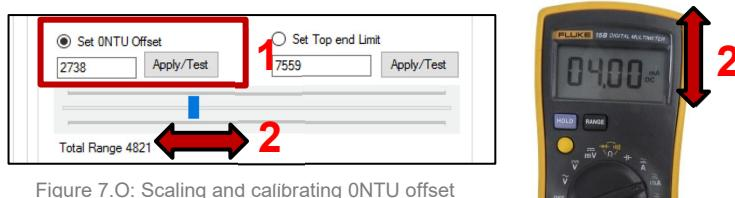

Figure 7.O: Scaling and calibrating ONTU offset
3. Select the option “Set Top-end Limit” (Figure 7.P: #3).